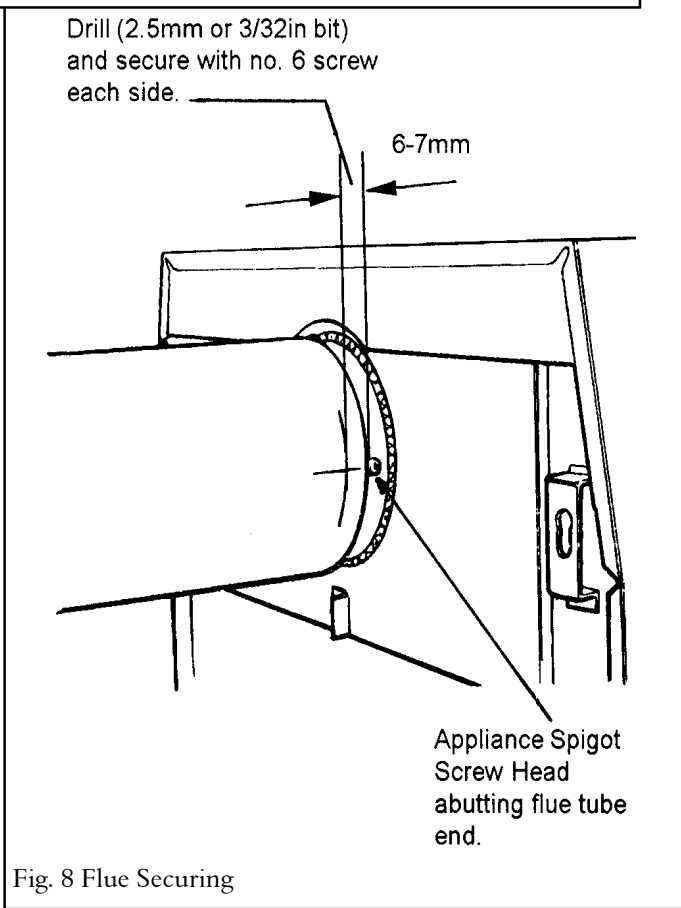

Fig. 8 Flue Securing
6.6.1 Using a suitable metal cutting drill bit, drill through the outer flue tube and outer spigot at a distance of between 6mm & 7mm from the cut end of the outer flue tube - See figure 8.